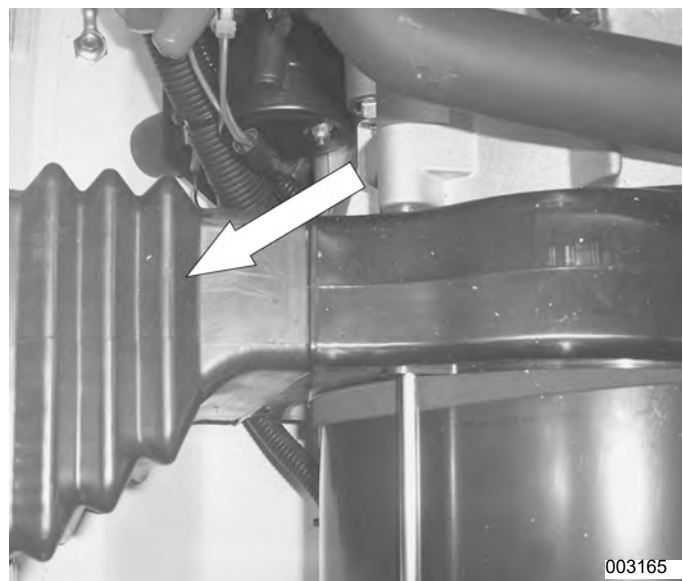

Figure 5-54.
23. **Alternator Air Intake Bellows Removal:** See Figure 5-54. Remove alternator intake bellows.